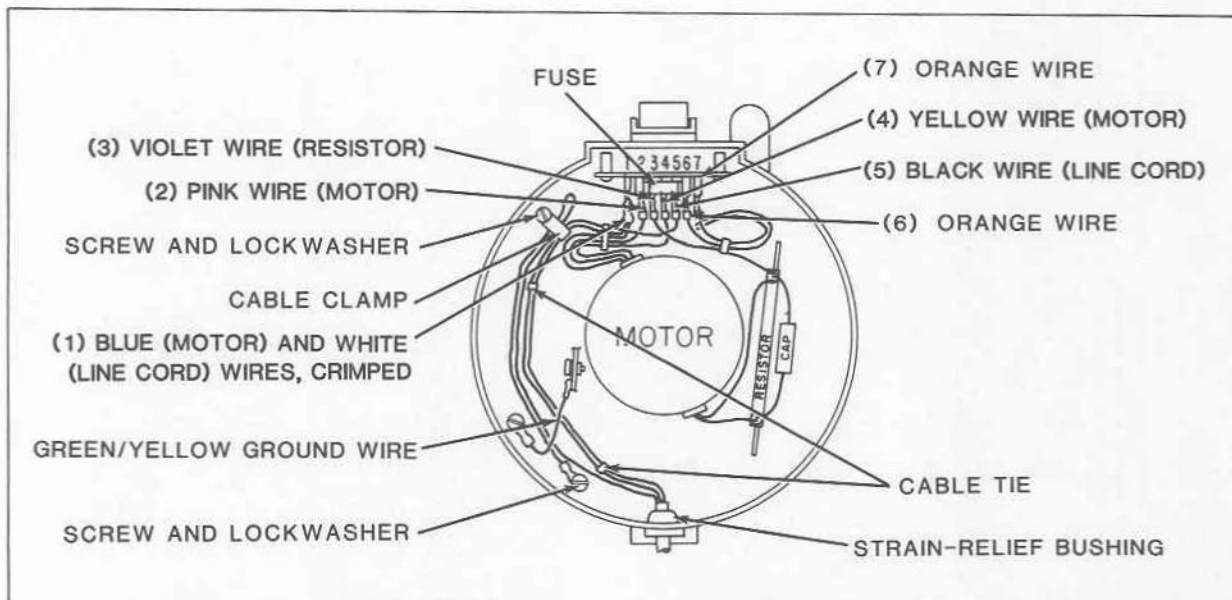

Figure 5-5. Timer Circuit Board, External Wire Connections
- k. Refer to Figure 5-5. Hold motor in raised position, and disconnect ground wire (green with yellow stripe) from bottom of motor support bracket.
- n. Disconnect following motor wires from their pin connectors on timer circuit board (see Figure 5-5):
- Yellow wire (4)
- Pink wire (2)
- Blue wire (1) (crimped in terminal with white line cord wire)
- o. Disconnect violet wire (3) from pin connector on timer circuit board.
- e. Install new timer circuit board by performing Steps a. (Figure 5-5) through c. in reverse order. Circuit board replacement includes new front panel with adhesive back.